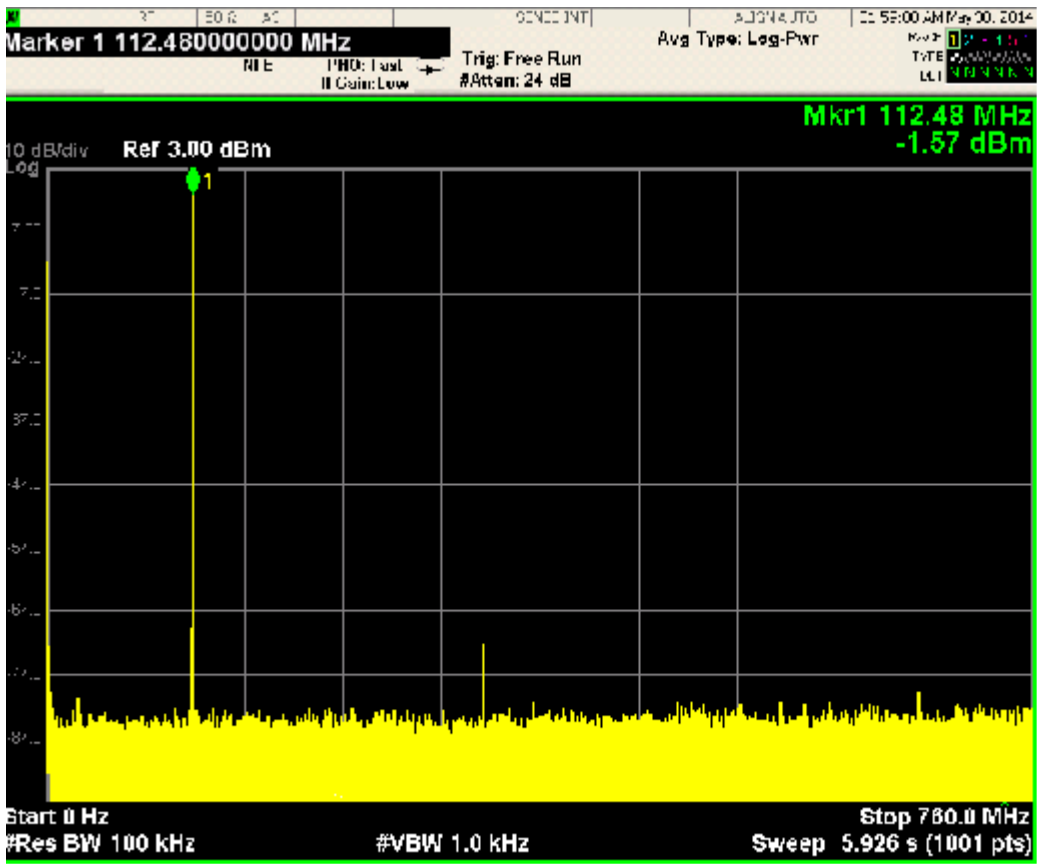

Figure 8. DAC Output Spectrum Analyzer Display
- Configure the hardware according to the hardware set-up instructions given in the Hardware Setup section above. Set the frequency of the DAC clock signal generator to 1500MHz, and the output level to 3dBm. The spectrum analyzer can be configured as shown in Figure 8 with a resolution bandwidth of 100kHz. Choose an Input Attenuation of 24dB.